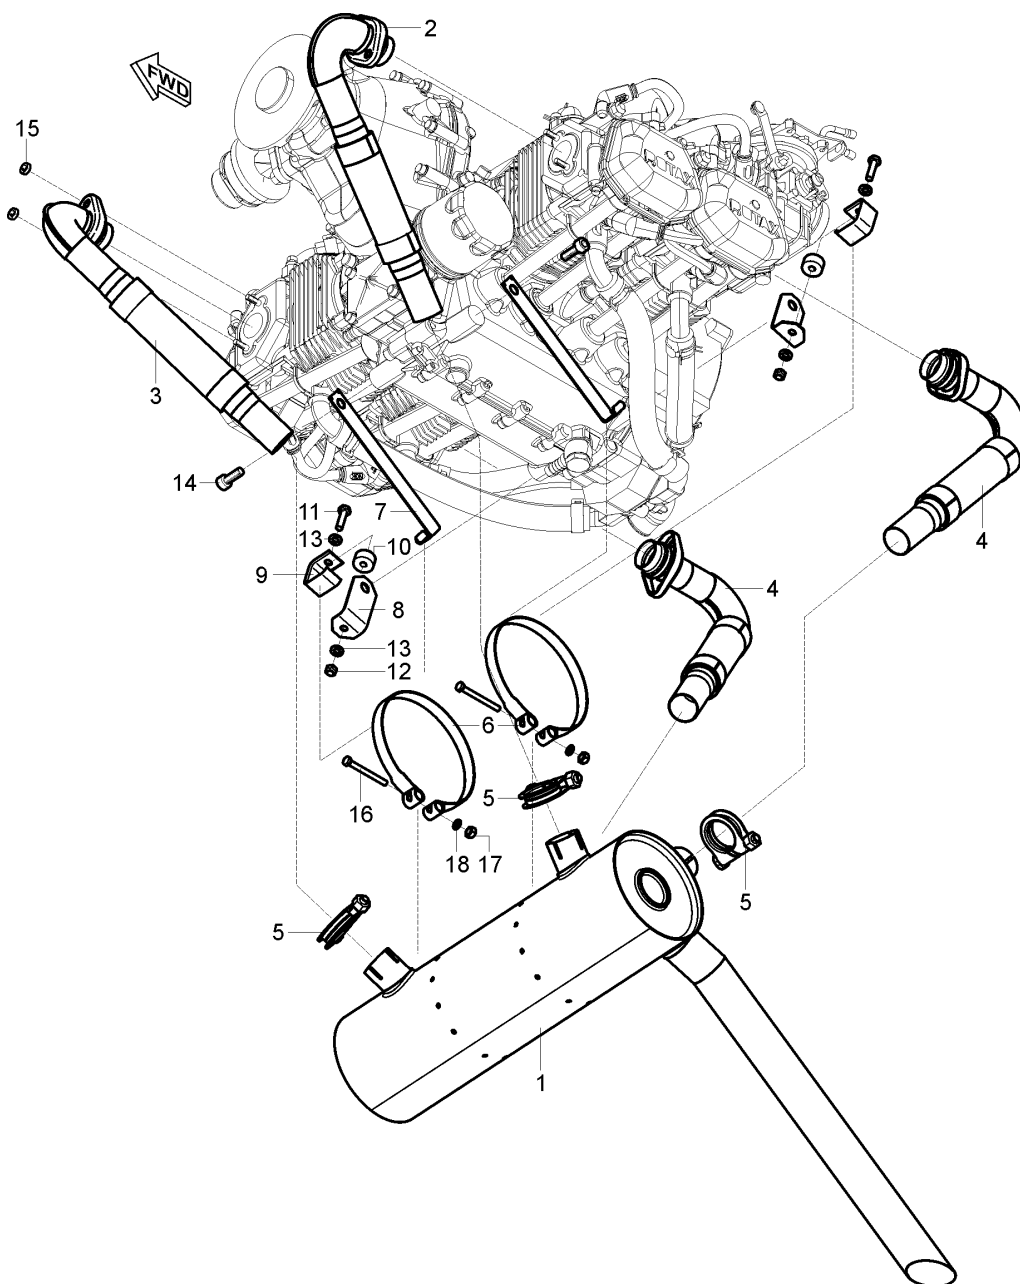

Fig. 2 – Exhaust system – removal / installation
- b) Install the shock-absorbers (10, Fig. 2) between the brackets (8; 9) and attach them with screws (11), nuts (12) and bushings (13); do not tighten the nuts.
- c) Attach the front brackets (7); slightly tighten the screws (14).
- f) Attach the muffler (1) to the brackets (7; 9) with clamps (6), screws (16), nuts (17) and washers (18); do not tighten the nuts.
- g) Put the sleeves (5) on the muffler socket pipes (1).
- i) Slide the individual pipes (2, 3, 4, Fig. 2) on the muffler socket pipes (1); align the flanges on the cylinder heads, screw on the nuts (15) and tighten them slightly.
- k) Tighten the sockets (5), nuts (12; 17) and screws by (14) with the prescribed torque of 8-10 Nm.
- l) Tighten the flange nuts (15) with the prescribed torque of 15 Nm.
- m) Check the shock absorbers (10). When tightening the exhaust pipeline clamps, the shock absorbers may be compressed and need to be tightened.
- n) Secure the screws (14) and fasteners of the clamps (16; 17) with a lockwire according to the procedure mentioned in the Aircraft Maintenance Manual for Sportstar RTC (doc. No. ERTC022-10-AS), Section 20-20.
Legend to Fig. 2